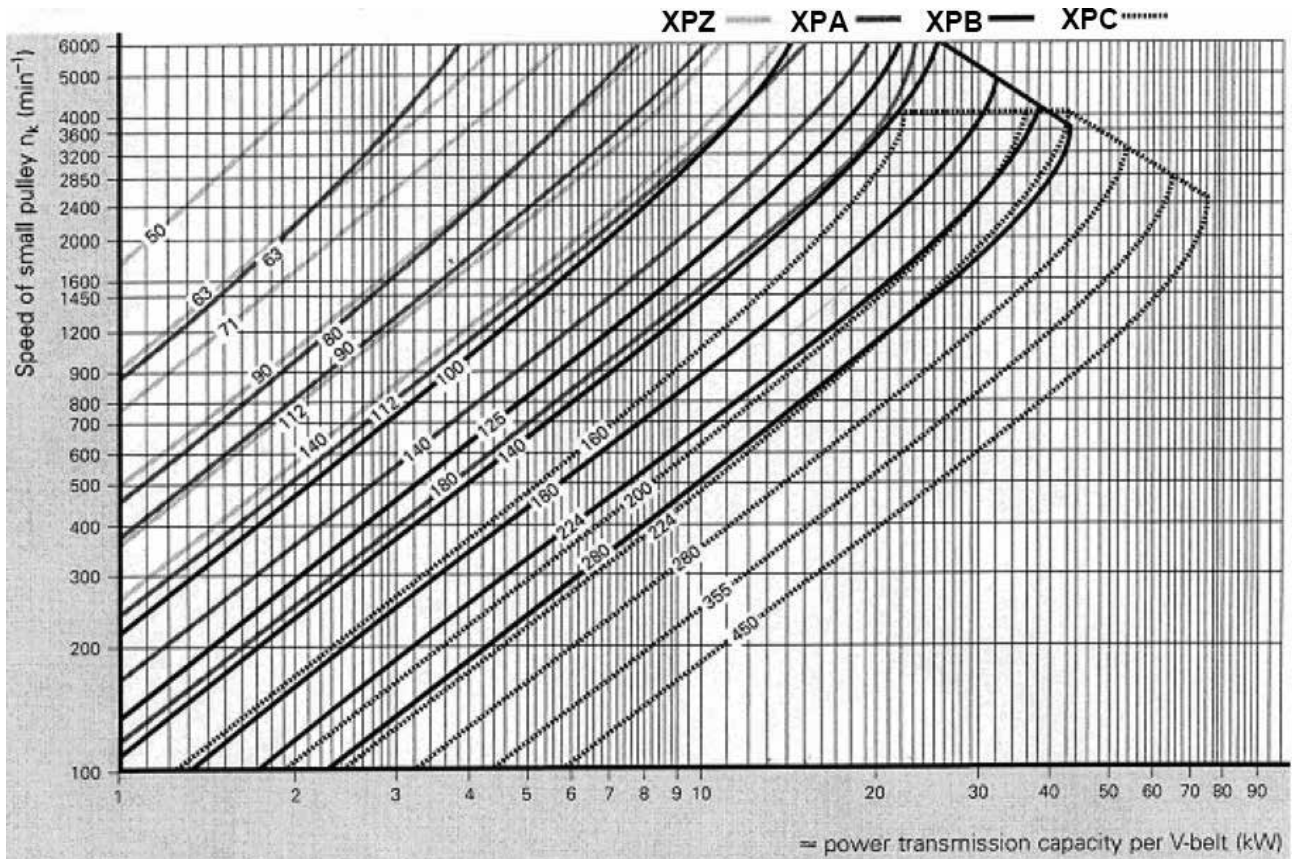
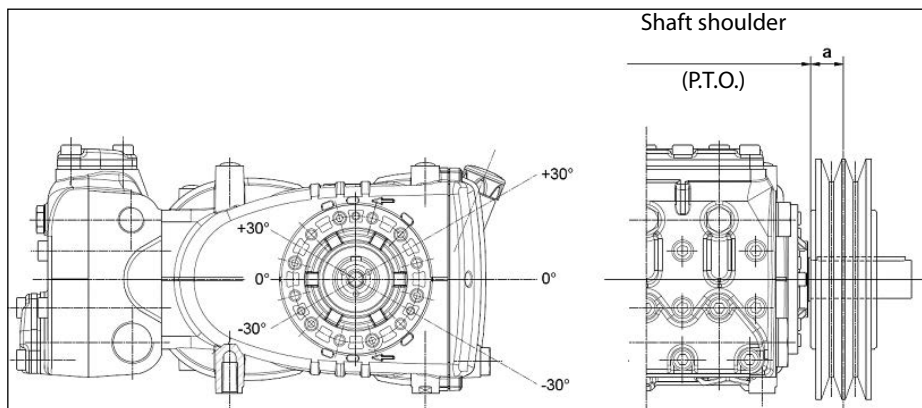

Fig. 7
Fig. 10
The pump can be controlled by a V-belt system. For this pump model, we recommend use of 2 XPB belts (16.5x13 serrated). Use an XPC profile only for long durations. Both the characteristics and transmissible power of each belt can be verified in the diagram in Fig. 7, in relation to the number of rpm normally declared by the manufacturer. Minimum duct pulley diameter (on pump shaft): ≥ 160 mm. The radial load on the shaft must not exceed 3000 N (value necessary for Layout definition). The transmission is considered adequate if the load is applied at a maximum distance $a=30$ mm from the shaft shoulder (P.T.O) as shown in Fig. 10.
- b) Use high performance belts – for example **XPB** instead of **SPB** – as a lower quantity of belts for the same transmitted power may be necessary and a consequent shorter resulting distance compared to the shaft shoulder (P.T.O) "a" of Fig. 10.